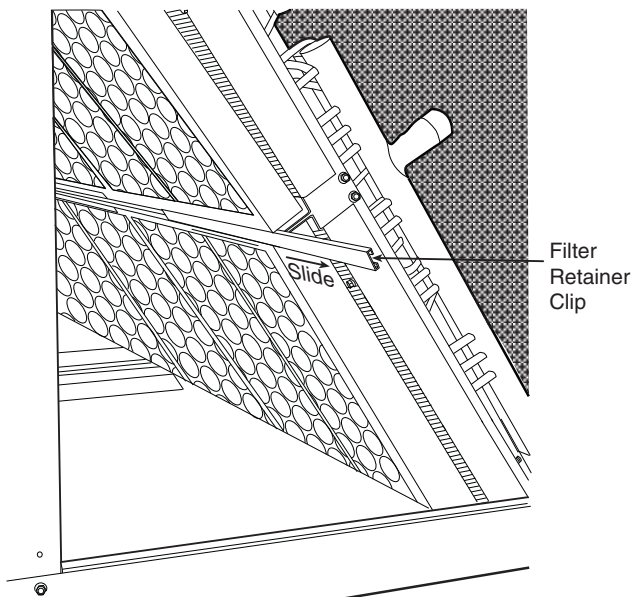

Fig. 37 — Remove Filter Retainer Clip
2. Remove the filter retainer clip (see Fig. 37).